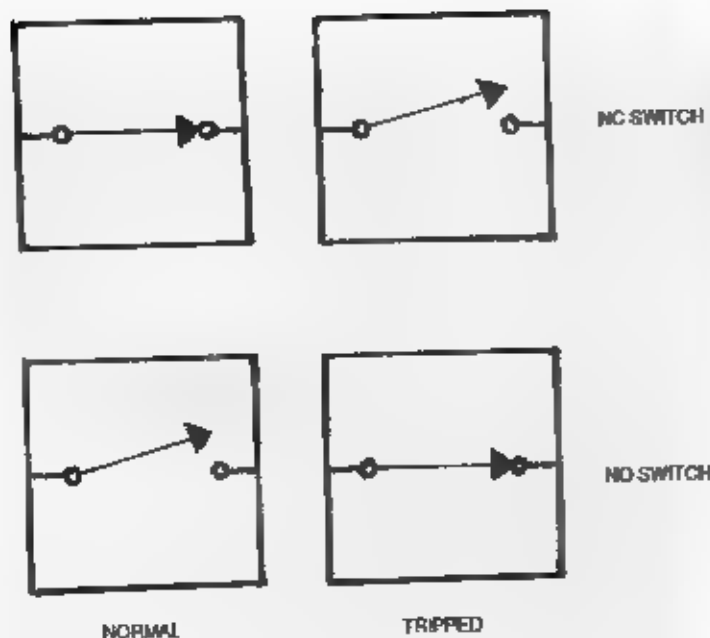

Figure 69. The difference between NO and NC switches.
es The sensor switch will be either normally open or normally closed (fig. 69). A normally closed (NC) switch is a switch, magnetic or mechanical, in which the contacts are closed (electrically conductive) when no external forces act upon the switch. A normally open (NO) switch, on the other hand, is one in which the contacts are open or separated (electrically nonconductive) when no external forces act upon it. The control unit will sense when the status of one of its sensors is changing and then sound the alarm.